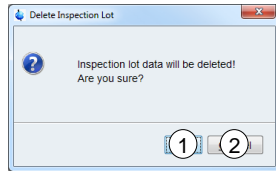

Figure 5-52: Navigation context menu – Delete Inspection Lot confirmation dialog
Click **Delete Inspection Lot** (1) in Inspection Lot context menu to delete the selected Inspection Lot. A subsequent confirmation dialog opens up (Figure 5-52).
Click **OK** (Figure 5-52 (1)) to confirm and continue the deletion of the Inspection Lot. Click **Cancel** (Figure 5-52 (2)) to abort and keep the Inspection Lot.